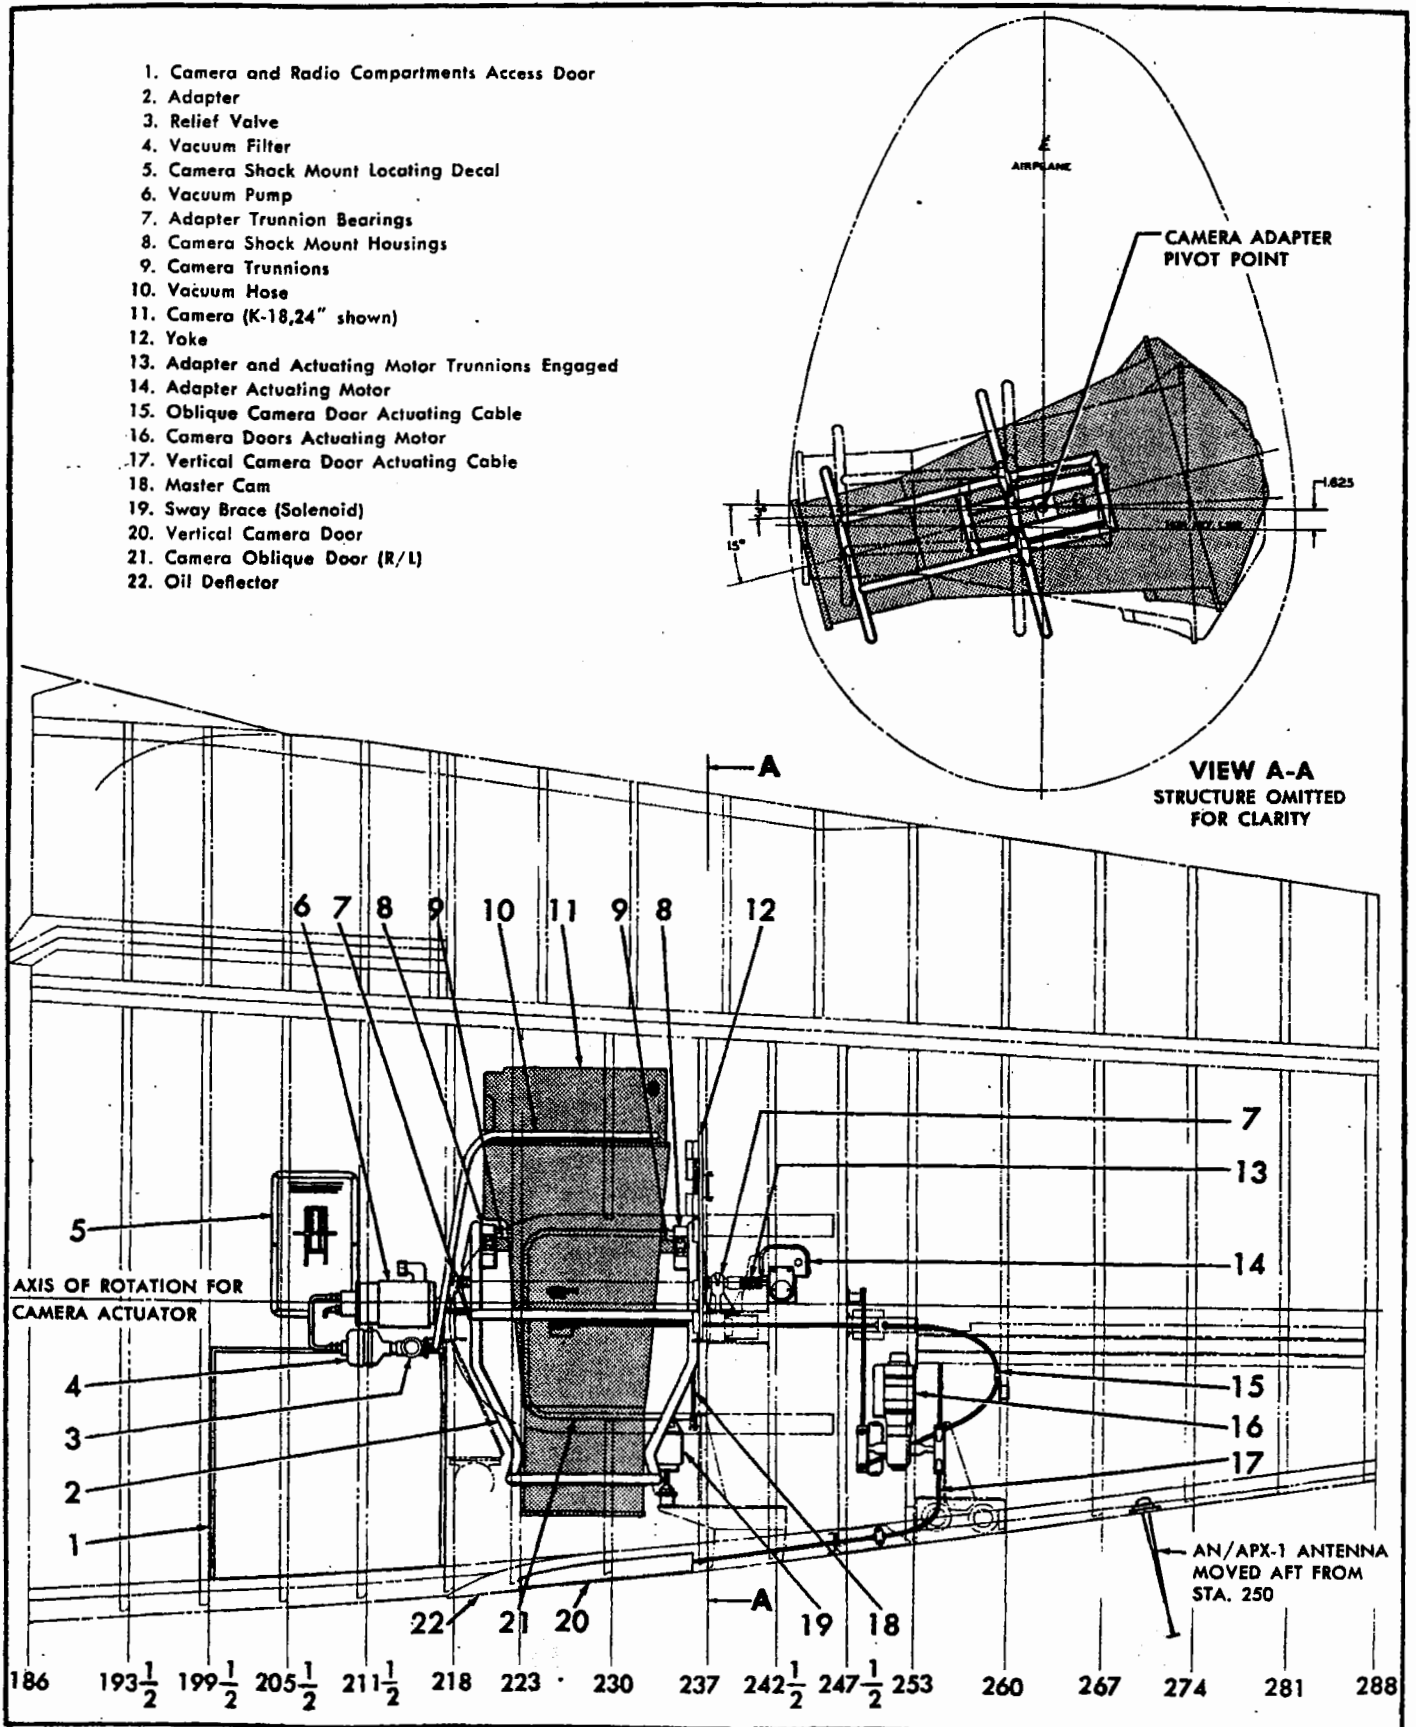

Figure B-4. Camera Installation.
B-21. DESCRIPTION. (See figure B-4.) A steel tubular adapter (2) located at fuselage station 229 forms a cradle into which the camera (11) is mounted. The adapter is supported fore and aft on supporting members located at fuselage stations 218 and 237, and can be rotated laterally a maximum of 174 degrees into any one of five camera positions by means of an electrically-driven rotary actuator (14). The positions are: three degrees from the horizontal to left and right; fifteen degrees from the horizontal to left and right and to the vertical. An aluminum alloy cam (18) carrying two phenolic blocks or camera position microswitch actuating cams, is attached to the adapter. When the adapter is rotated, cam action closes and opens position microswitches as required to complete the circuit for Camera operation. (See figure B-6.) The right hand half of the upper adapter ring (4) is detachable for the purpose of facilitating camera installation. This
B-25. DESCRIPTION. (See figure B-4.) The camera adapter actuating motor (14), a rotary actuator manufactured by Lear, Inc. of Grand Rapids, Michigan, their part number 111 BJ-1, is located at approximately fuselage station 242.5 on the rear camera adapter support. The adapter motor has the same principle of operation as the camera door actuating motor (see paragraph B-15). The motor is coupled to the rear trunnion of the adapter by means of the half round end of the adapter trunnion mating with that of the actuator motor-driven shaft. The two shaft ends are secured together by a spring-loaded sleeve fitting over the joined shafts (13). The purpose of this motor is to rotate the camera adapter (2) and its mounted camera (11) to any of the five positions, i.e., three and fifteen degrees from the horizontal left and right, and vertical. Nine microswitches are secured to an aluminum alloy yoke (12) attached at its base to the rear adapter support and at its upper portion to a channel support extending laterally across the fuselage. Two additional switches are carried by a bracket mounted on the bottom sway brace support. These switches are identified by numbers stamped on the yoke. Eight of these switches are position switches, and three are employed in conjunction with the camera door microswitches to complete the camera system circuit when the doors are open. The eight switches, when actuated by the master cam attached to the adapter, restrict camera adapter rotation by the actuating motor to the position selected by the pilot. Position of the camera adapter is controlled through the camera control panel on the right hand console forward of the "MASTER" and "VHF" radio panels. The control panel (see figure B-11) has five push-buttons corresponding to the positions specified; in addition, a green indicator light is provided to indicate when the camera is in any one of the five positions, but it is not lighted when the camera is in transit. A polarized relay in the camera adapter actuator motor energizes directional circuits so that clockwise or counterclockwise rotation of the motor and adapter take place. Microswitches 1, 3, 5 and 7 control clockwise rotation and switches 2, 4, 6 and 8 control counterclockwise rotation. In addition to the internal magnetic clutch in the motor, a friction clutch has been incorporated to prevent damage to the motor. This clutch has been adjusted to slip at 400 pound-inches.
B-45. DESCRIPTION. (See figure B-4.) Three oil deflectors (22) of .025 inch aluminum alloy are provided for the protection of the camera lens, and are secured to the exterior of the fuselage skin panels containing the camera doors.